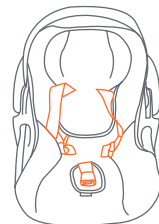

Fig. 34-1
3. Place the Safety Seat on a firm and level surface. Move the carry handle to the non rocking position. Loosen the Harness Straps by pulling on the straps while pushing on the Harness Adjuster Button located below the pad just in front of the buckle. Unbuckle the Harness Chest Clip. Unbuckle the Harness Straps and drape the Harness Straps over the Seat back or to the sides of the Safety Seat (Fig. 34-1).